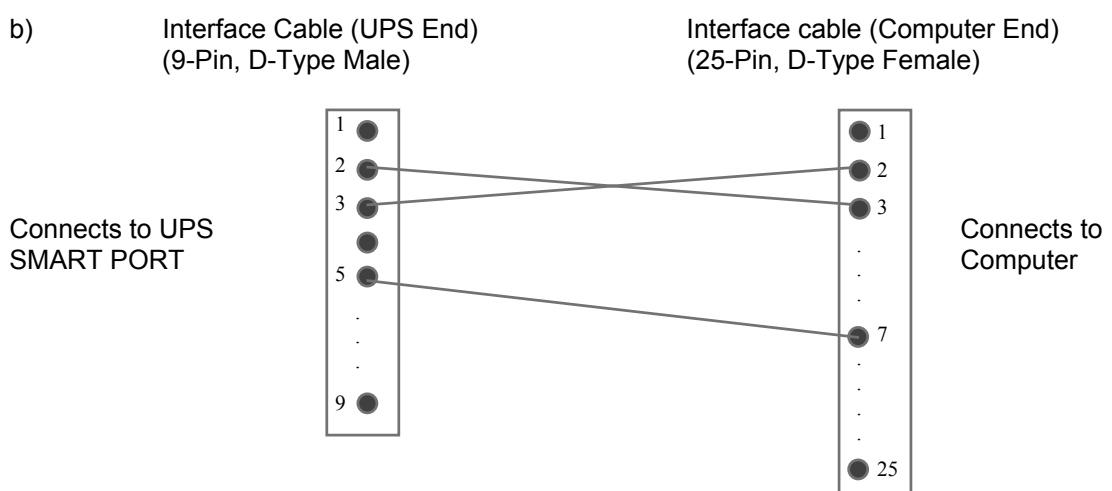

Figure 3.9 Connector Cable – PC Serial Port with 25-pin Connection
- Fig. 3.9 in case the PC has a 25 pin serial port